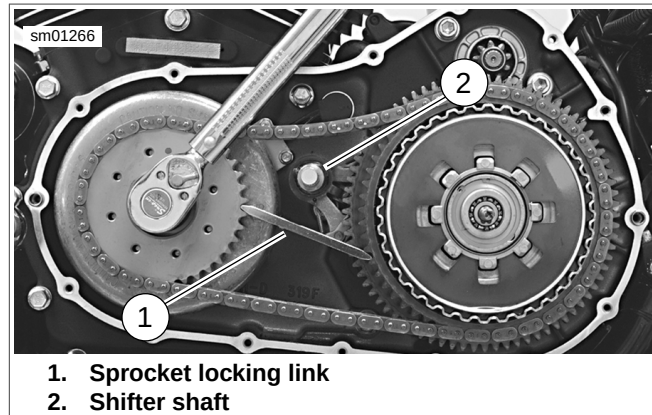

Figure 5-18. Tighten Engine Sprocket Fastener (typical)
See Figure 5-18. In the next step, you will be positioning the **SPROCKET LOCKING LINK (883 CC) (Part No. HD-38362)** or **PRIMARY DRIVE LOCKING TOOL (1200 CC) (Part No. HD-46283)** (1) on the engine and clutch sprockets. Make sure you do not position the sprocket locking link too close to the shifter shaft (2). If the sprocket locking link contacts the shifter shaft while you are exerting force to tighten the engine sprocket nut, the sprocket locking link may damage the shifter shaft and/or the engine crankcase.
3. See Figure 5-18. Install **SPROCKET LOCKING LINK (883 CC) (Part No. HD-38362)** or **PRIMARY DRIVE LOCKING TOOL (1200 CC) (Part No. HD-46283)**.